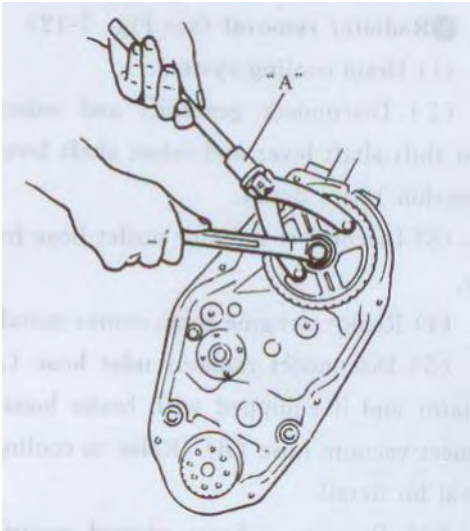

FIG.6-17 (see fig.7-18 of service manual for HFJ6351B)
(7) Remove belt tensioner.
(8) Remove camshaft timing belt pulley using special tool "A" (FIG.6-17)